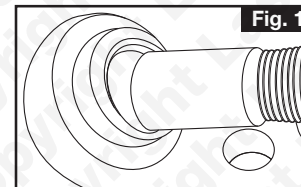

Fig. 1
3. It is helpful at this point to remove the rubber dust boot from the old joint to improve access and reduce the chance of the joint jamming. **Fig. 1**